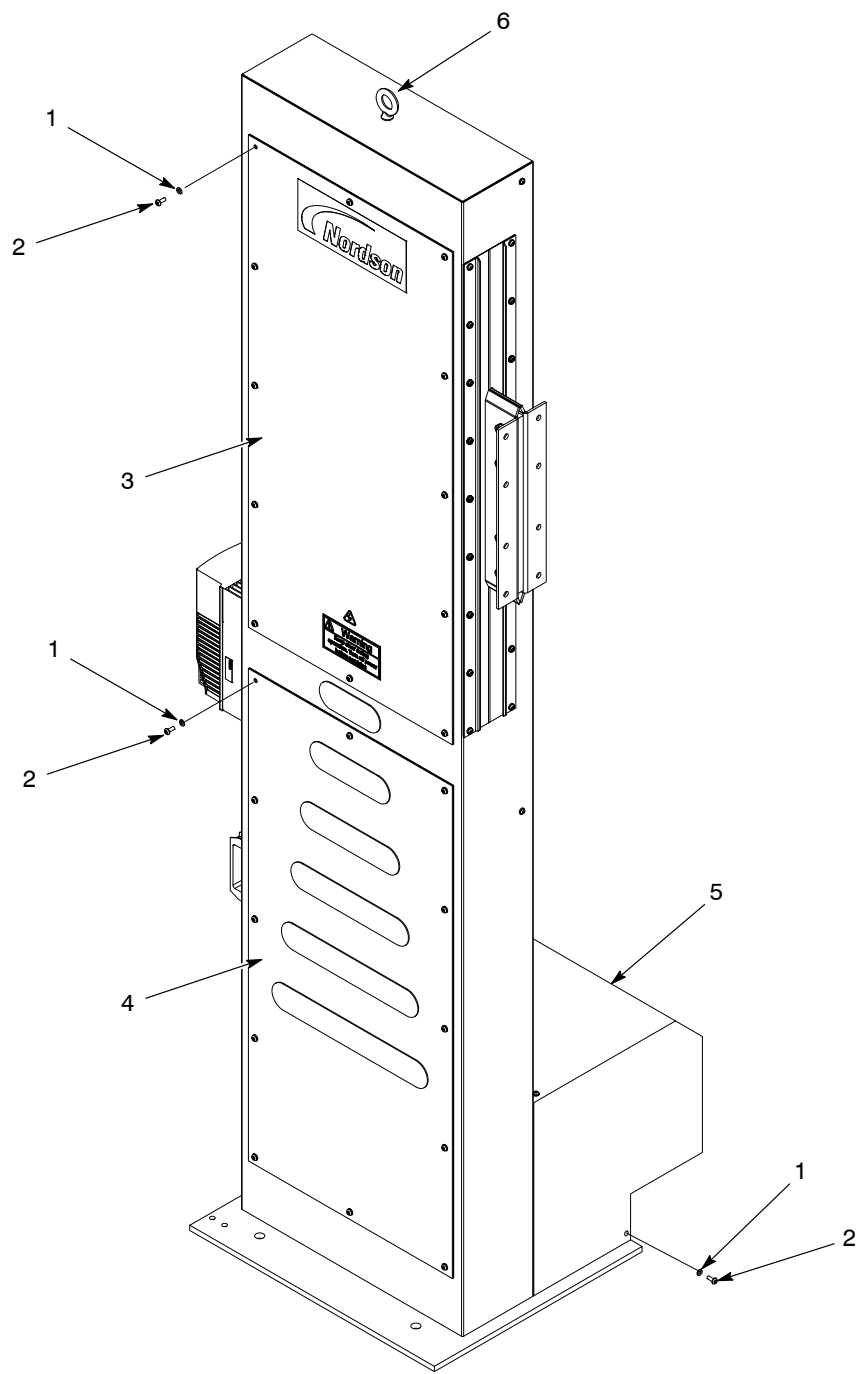

Figure 2 Removing the Covers
2. See Figure 2. Attach lifting equipment to the eye bolt (6). Carefully lift the oscillator upright and off of the shipping container.
4. Remove the screws (2) and lock washers (1) securing the covers (3, 4) and gear motor cover (5).